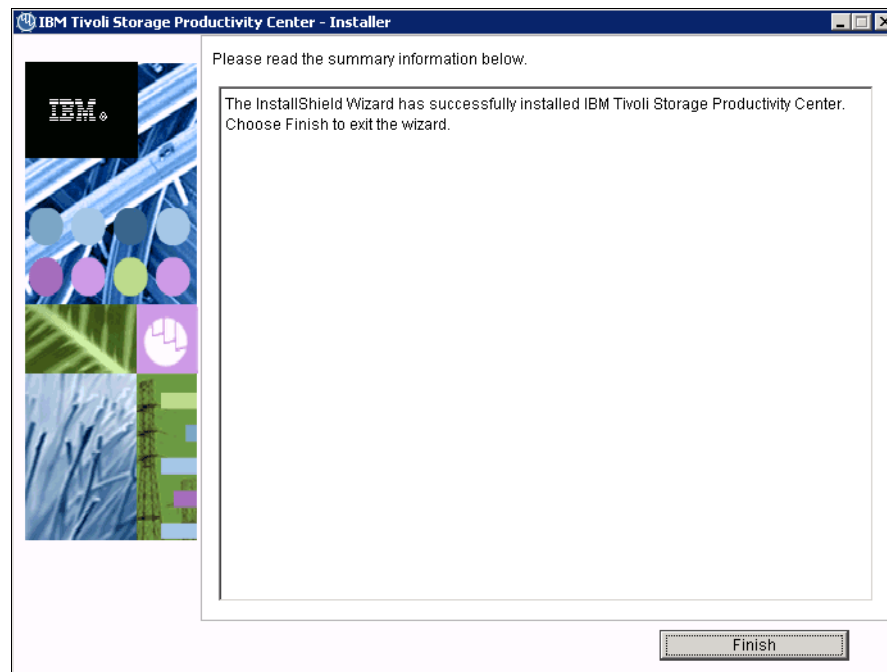

Figure 12-38 Tivoli Storage Productivity Center Typical installation wizard complete
16. After several minutes, the Tivoli Storage Productivity Center installation process completes. Click **Finish** to close the wizard (Figure 12-38).